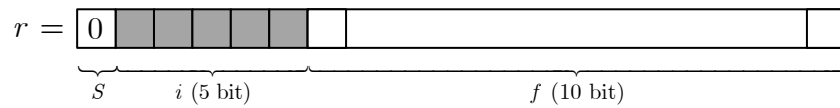

Figure 4: Decomposition of the variable $r = (-1)^S \times i.f$ into sign S bit, integer part, i bits, and fractional part, f bits.
5. **(L)** Use the oscillator state variable r to index the LUT and obtain the sine values. The procedure is indicated in Figure 4. From the 16-bit state variable (r in this figure), extract the required 5 bits (integer part, variable i) to address the LUT and get the sine value $y(n) = \text{LUT}(i)$.